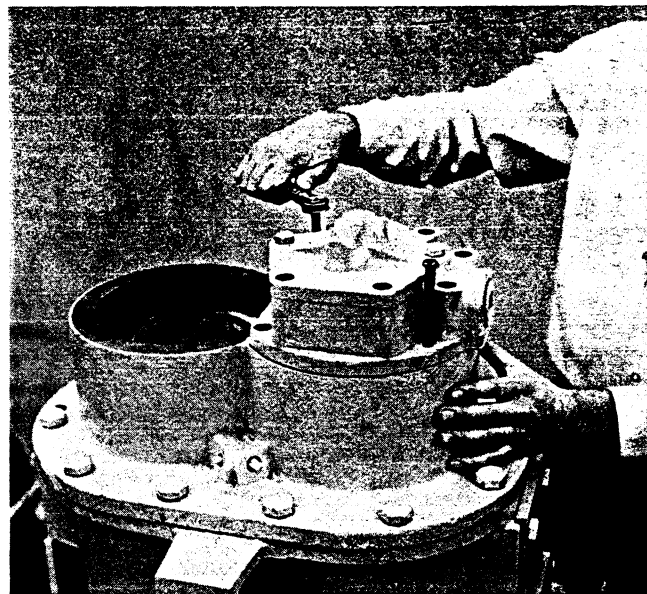

Figure 11
8. Remove the complete oil pump from the rear bearing housing. This can be done by first removing the eight $\frac{1}{2}$ " - 13 cap screws; then, using jack screws in the holes provided, lifting the oil pump clear of the bearing housing. Refer to Figure 11 and 12. Remove and discard the oil pump body to bearing housing